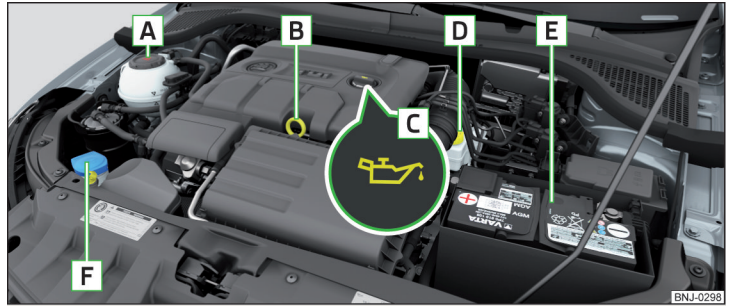

Fig. 258 Arrangement (example) in the engine compartment
- ▶ Unscrew the cap of the engine oil filler opening **C** » Fig. 258 on page 210.